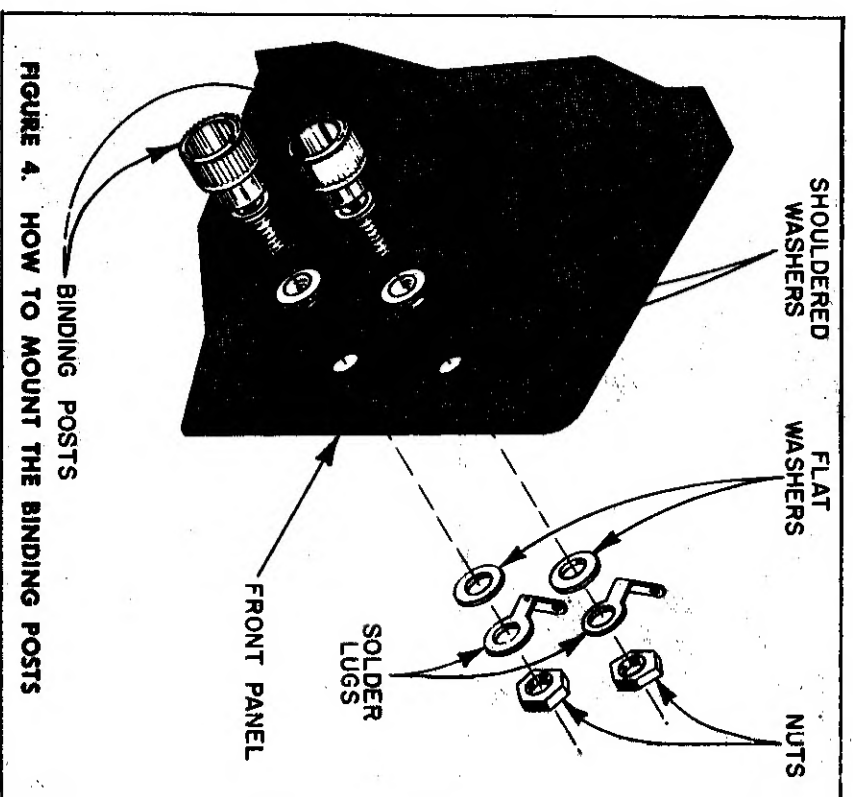

FIGURE 4. HOW TO MOUNT THE BINDING POSTS
- (✓) Mount the five **RED** Binding Posts (numbered 1, 3, 4, 5, and 6). Each of the binding posts is mounted as follows: Place one of the shouldered fiber washers over the threaded portion of the binding post. Then, insert the threaded section through a hole in the front panel. Place a small flat fiber washer and a solder lug over the threaded section. Attach a nut and tighten it securely. See Figure 4.